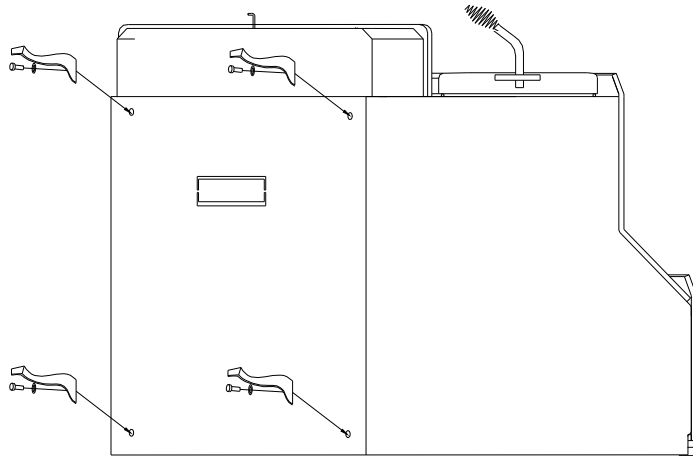

Figure 15.
5. Then obtain four legs, attach the legs to holes in bottom of unit with bolts and washers supplied with the leg kit. (See Figure 15).